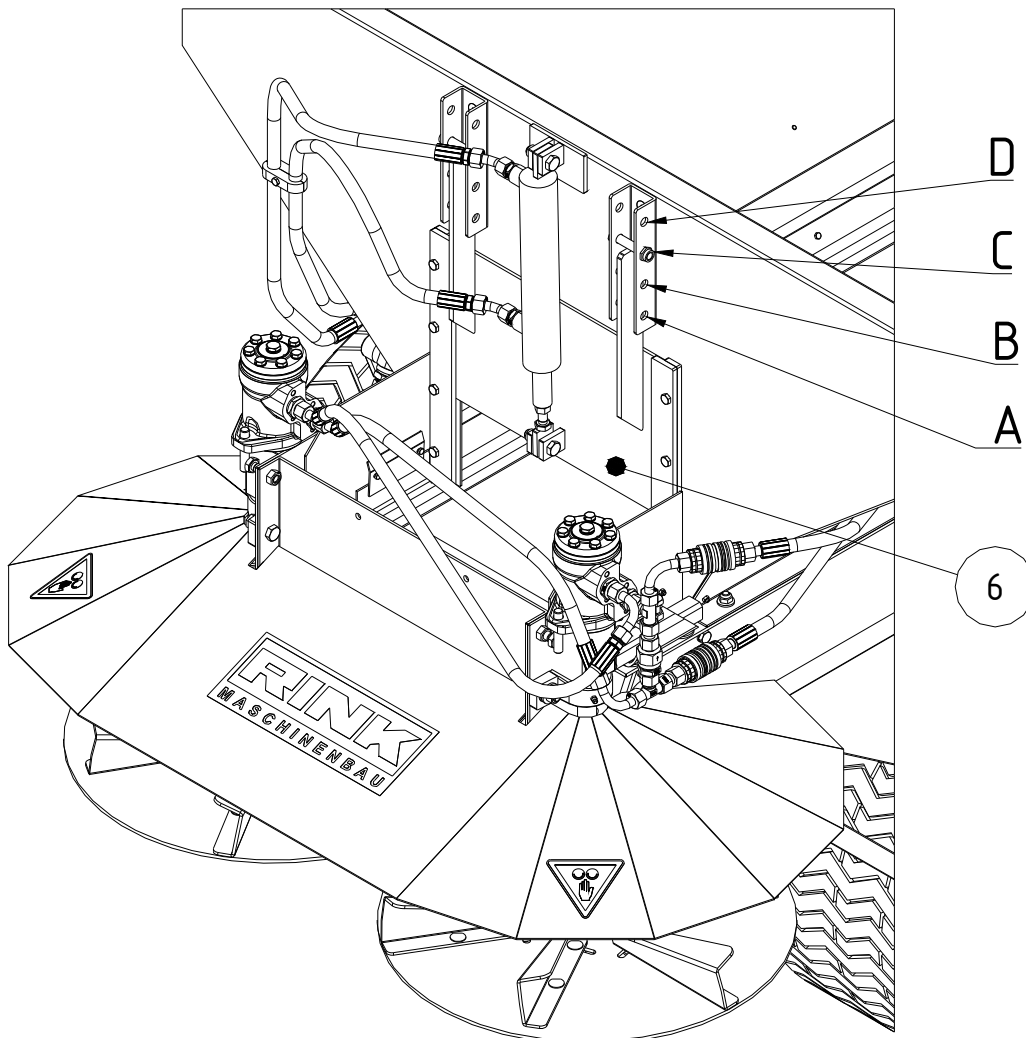
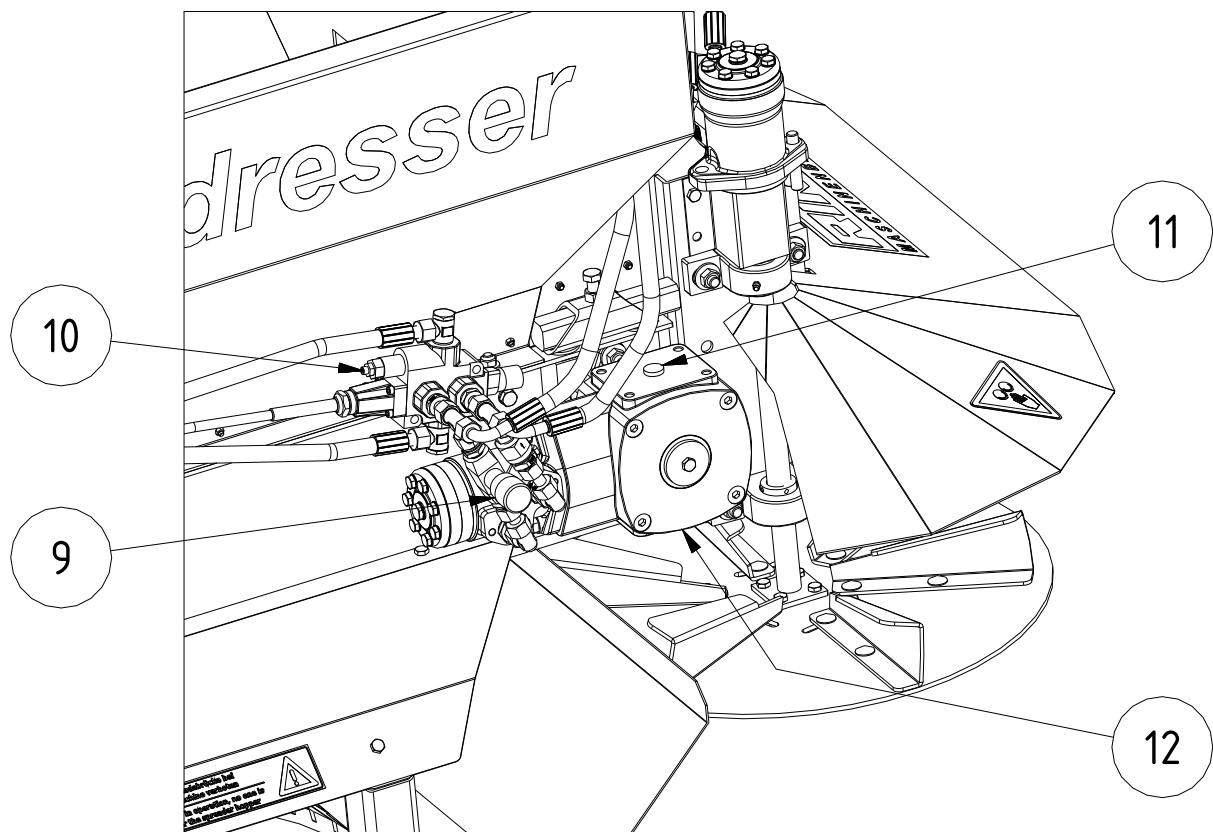

Fig.2: Control elements
Fig.6: Transport gear
- (1) Speed controller of conveyor belt
- (2) Speed controller of spreading discs
- (3) Return line
- (4) Pressure hose
- (5) Valve actuation for conveyor belt and gate
- (6) Gate (see page 10 Fig. 2)
- Adjusting the opening A-G of the automatic gate (6) (see page 10 - Fig. 2)
- Pressure relief valve (10) can be adjusted precisely on the hexagon socket (Fig. 6).
- Throttle valve (9) (Fig. 6) for regulating the slide (6) (see page 10 - Fig. 2). Only make adjustments when the machine is empty. Only turn the throttle valve until the gate opens.